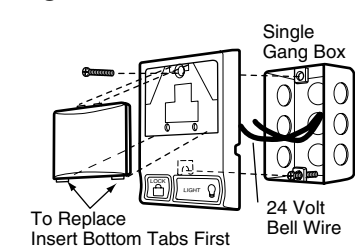

Figure 3 DOOR CONTROL (BACK)
- Strip 11 mm of insulation from one end of bell wire and connect to the two screw terminals on back of door control by color: white wire to 2 and white/red wire to the 1 (Figure 3).